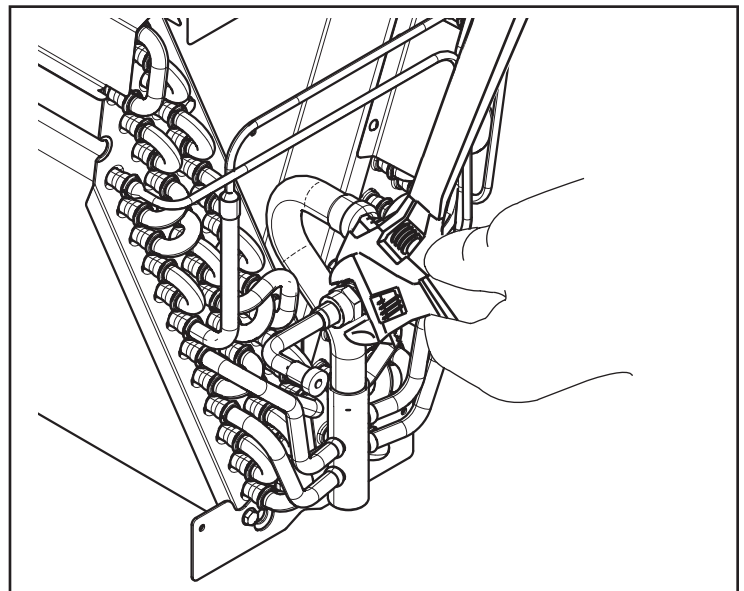

Figure 80 – Remove Stub Fitting from Replacement Coil
6. Using two adjustable wrenches, remove the stub tube assembly as shown in Figure 80 and discard.